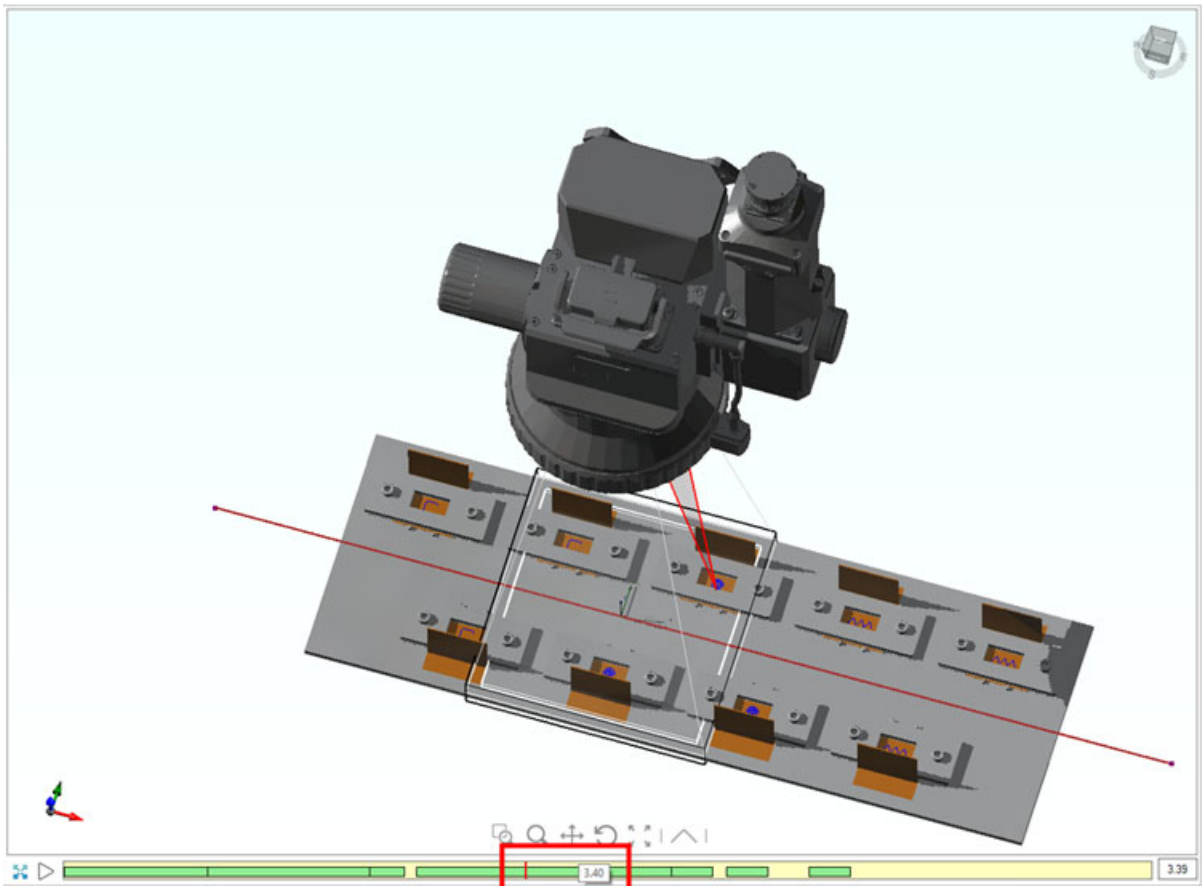

Figure 259: Scrubbing Along the Basic Timeline
- Timeline Scrubbing – Users can click on the timeline and drag the mouse cursor to scrub through the timeline at a desired rate. See Figure 259 (below).